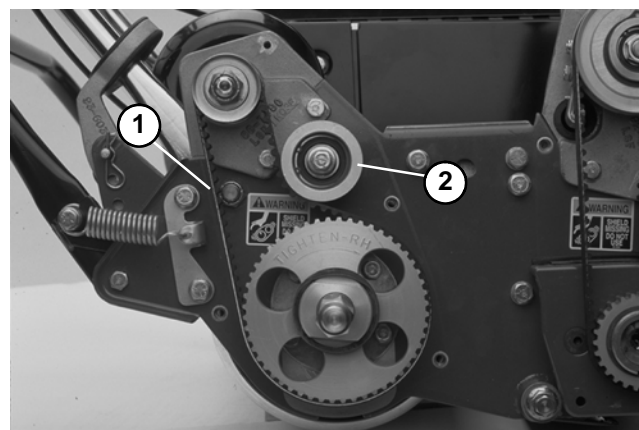

Figure 6
D. Pivot the idler pulley clockwise against the backside of the belt until desired belt tension is attained. **Do not over tension belt (Fig. 6).**
F. Reinstall belt cover by placing the cover in position. While maintaining a slight gap between the cover seal and the side plate, install each cap screw until the threads engage in the insert. The gap will allow visual alignment of the cap screw to the threaded insert. After all capscrews are installed, tighten them until the stand offs inside the cover contact the side plate. **Do not overtighten (Fig. 6).**